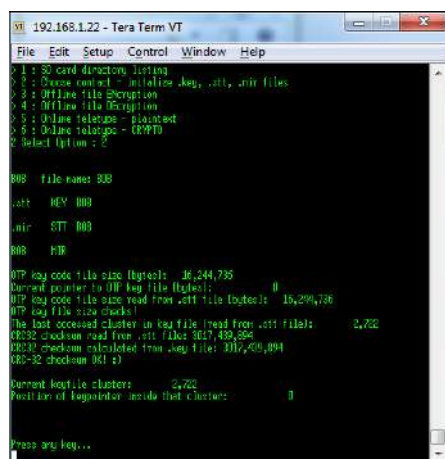

Figure 5. To choose a contact from the address book, enter 2.
5. She chooses the peer to send the encrypted file to. It is possible to have many different peer files on an SD card (different contacts in your address book - NAME.KEY, NAME.STT, NAME.MIR). Just enter the peer's name, the file extensions will be added automatically. (**Figure 5**)